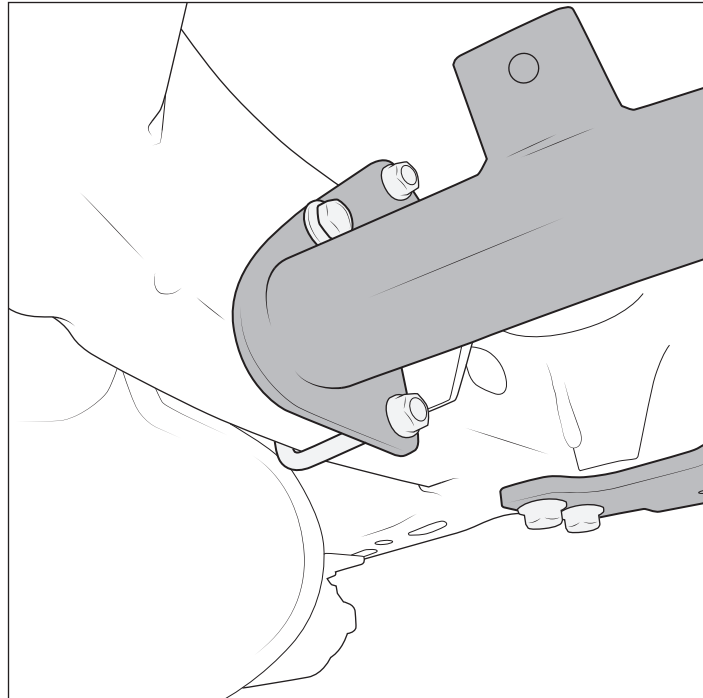

Figure 3
- E. Secure the front end of both Corner Tubes by installing the factory L bracket bolt through the hole in the front bracket, then the provided u-bolts around the frame rail and through the bracket. Hold in place with supplied M10 nuts. Be careful not to pinch any wiring, hoses, or other components with the u-bolts. Tighten all hand tight for now. (fig. 3)